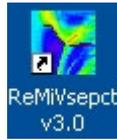
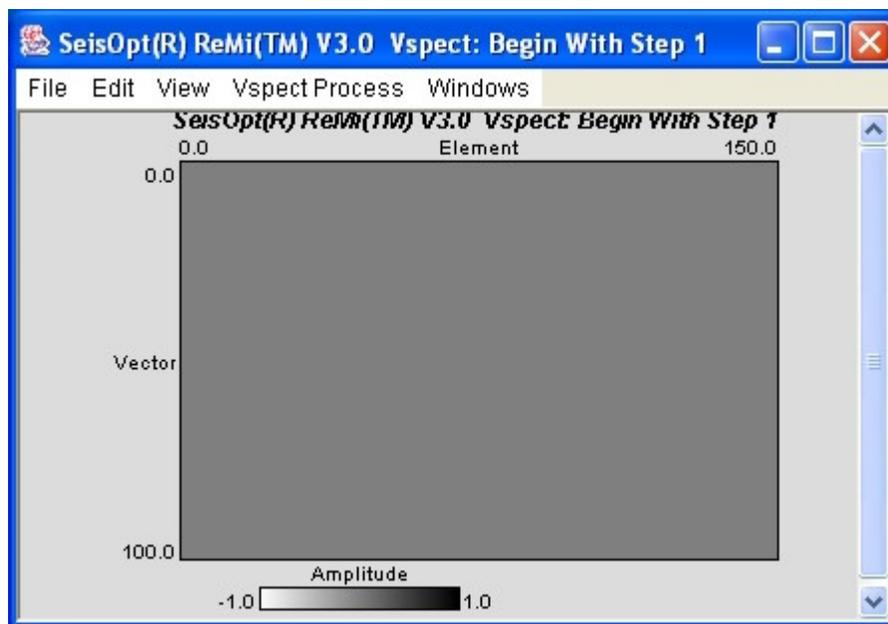

Figure 2a: SeisOpt ReMi Vspect module icon
Figure 7: Starting graphical user interface of SeisOpt ReMi Vspect module
- SeisOpt ReMi Vspect module (Figure 2a, see Section 3.0), which has tools to read in the recorded data and create a Rayleigh wave phase-velocity dispersion curve.
Double-click on the desktop icon shown in Figure 2a to launch the ReMi Vspect module. The graphical user interface shown in Figure 7 will open up. The Vspect module imports the microtremor data recorded in the field and performs a wavefield transformation, creating a "velocity spectrum" in the slowness-frequency (p-f) domain.